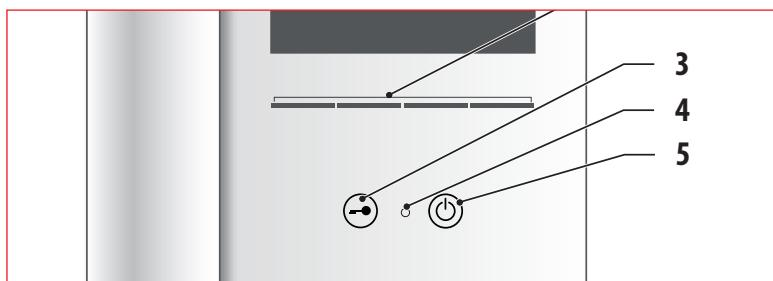

Fig. 10. Press the On/Off button on the indoor station.
The red LED on the Indoor Video Station will flash rapidly (4, Fig. 10) to indicate that the station is in programming mode.
- > Press the On/Off button (5, Fig. 10) on the Indoor Video Station.